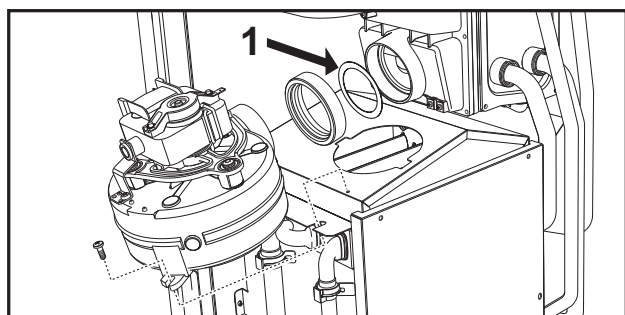

fig. 12
Before inserting the flue exhaust pipe, check the presence of the correct flue restrictor (when it is to be used) and that it is correctly positioned. The boilers are fitted as standard with the smallest diameter flue restrictor. To replace the flue restrictor (ref. 1 - fig. 12), proceed as indicated in fig. 12 and Table 3 or Table 5.